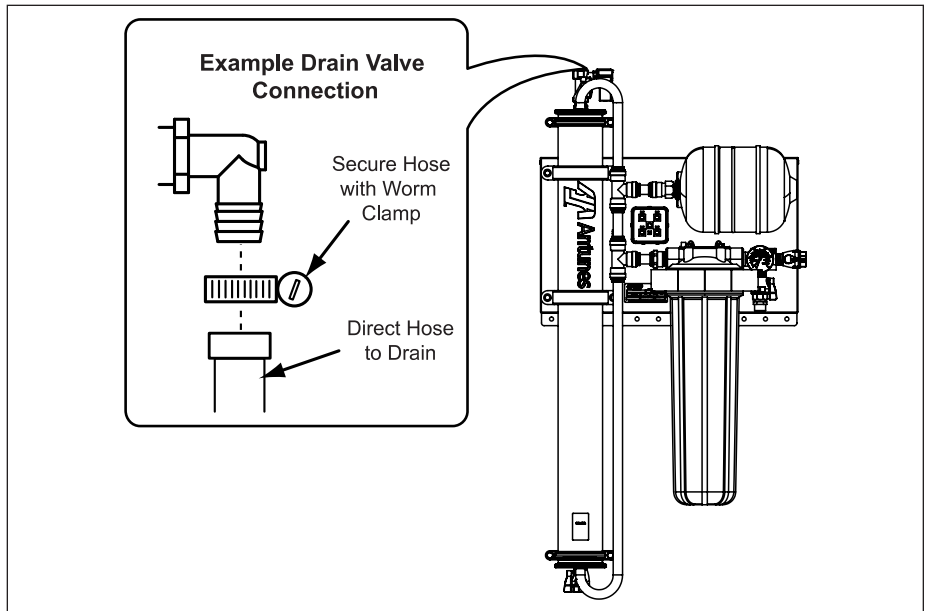

Figure 3. Drain Valve Connection
The System Drain Valve has a 3/4" FNPT thread (Figure 3). Do NOT overtighten fittings as this could cause the plastic drain valve to crack.
2. Connect one end of the hose to the Drain Valve with an appropriate fitting (not supplied) (Figure 3).